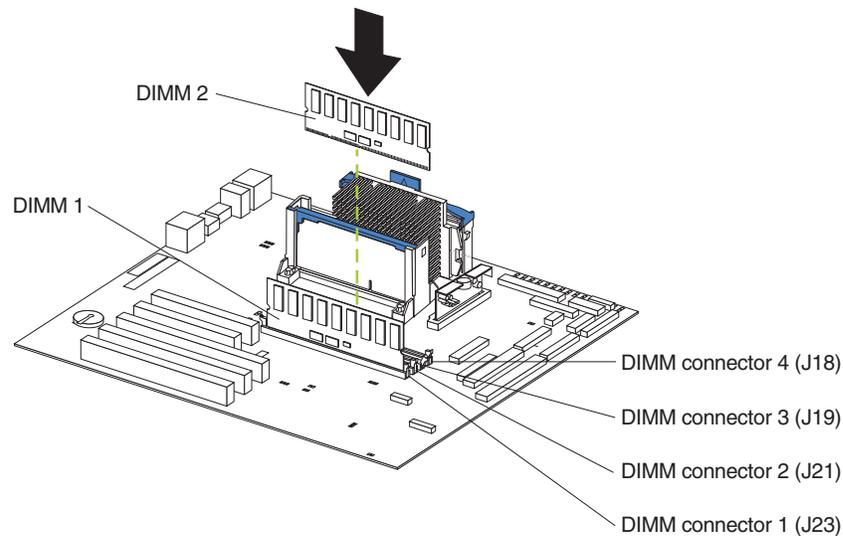

Figure 7. Installing a DIMM
7. Install additional DIMMs in the order specified in the documentation that comes with your option. (See Figure 7 for memory connector locations.)